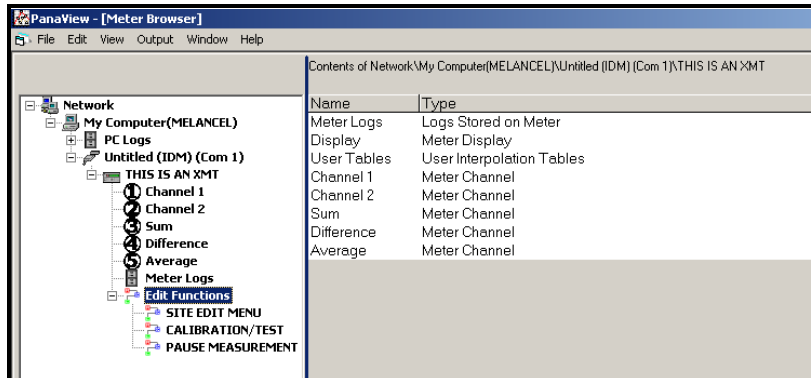

Figure 41: Menus in the *Edit Functions* Option
2. Expand the *Edit Functions* option. The window now appears similar to that shown in Figure 41 on page 97.